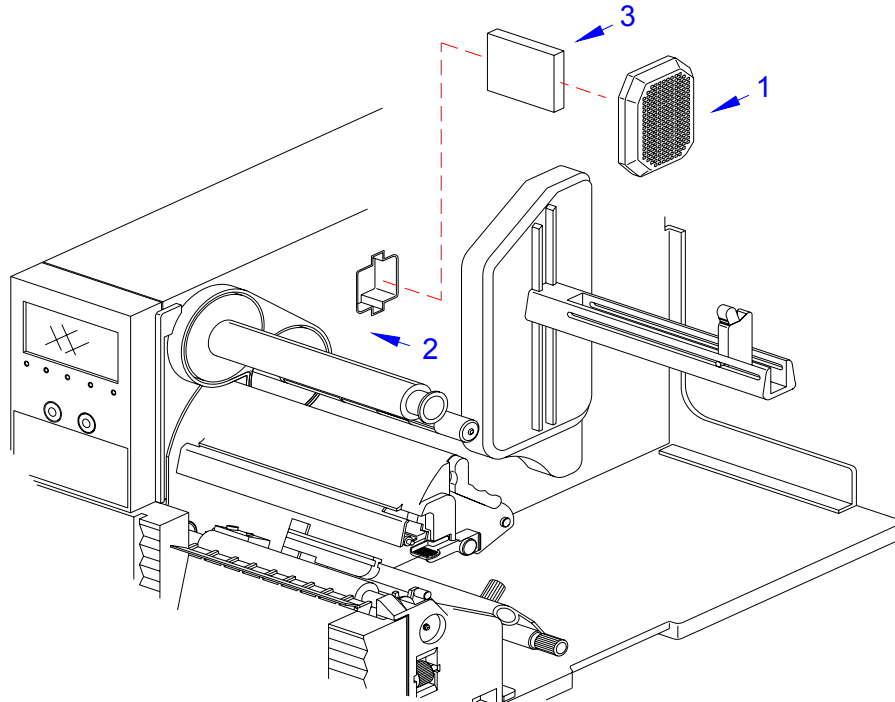

Figure 3-7, PCMCIA Memory Expansion
- 2 Detach memory cartridge cover (1, Figure 3-7) from center frame (2).
- 3 Fully insert memory cartridge (3) into its respective port and replace cover (1).